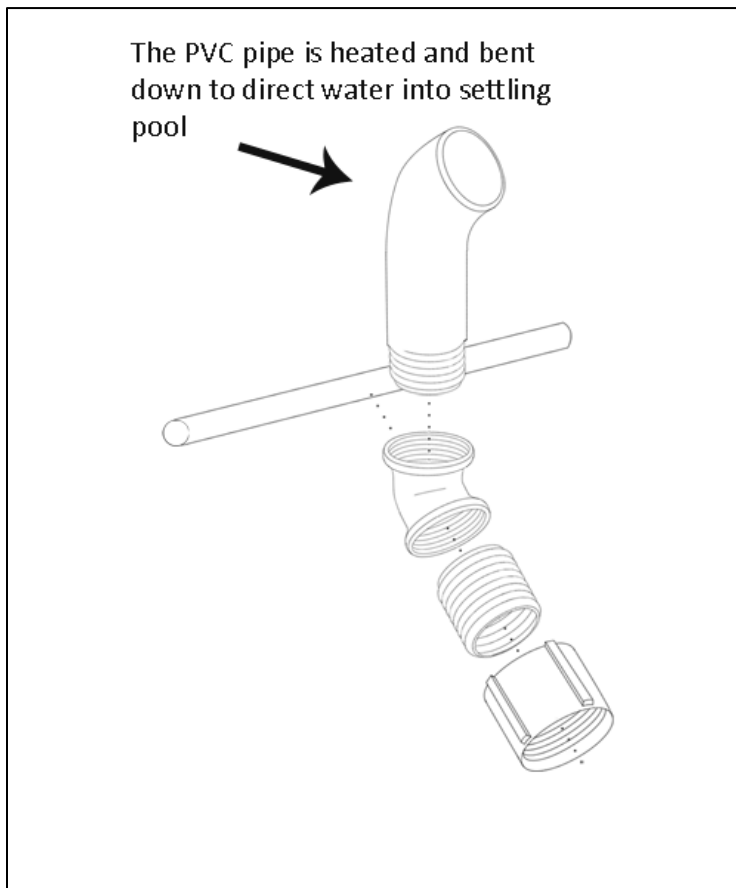

Figure 13 - Exploded view of spout
- iv. Heat the last 3-4" of the PVC pipe, gently bending it downward (See Figure 13)